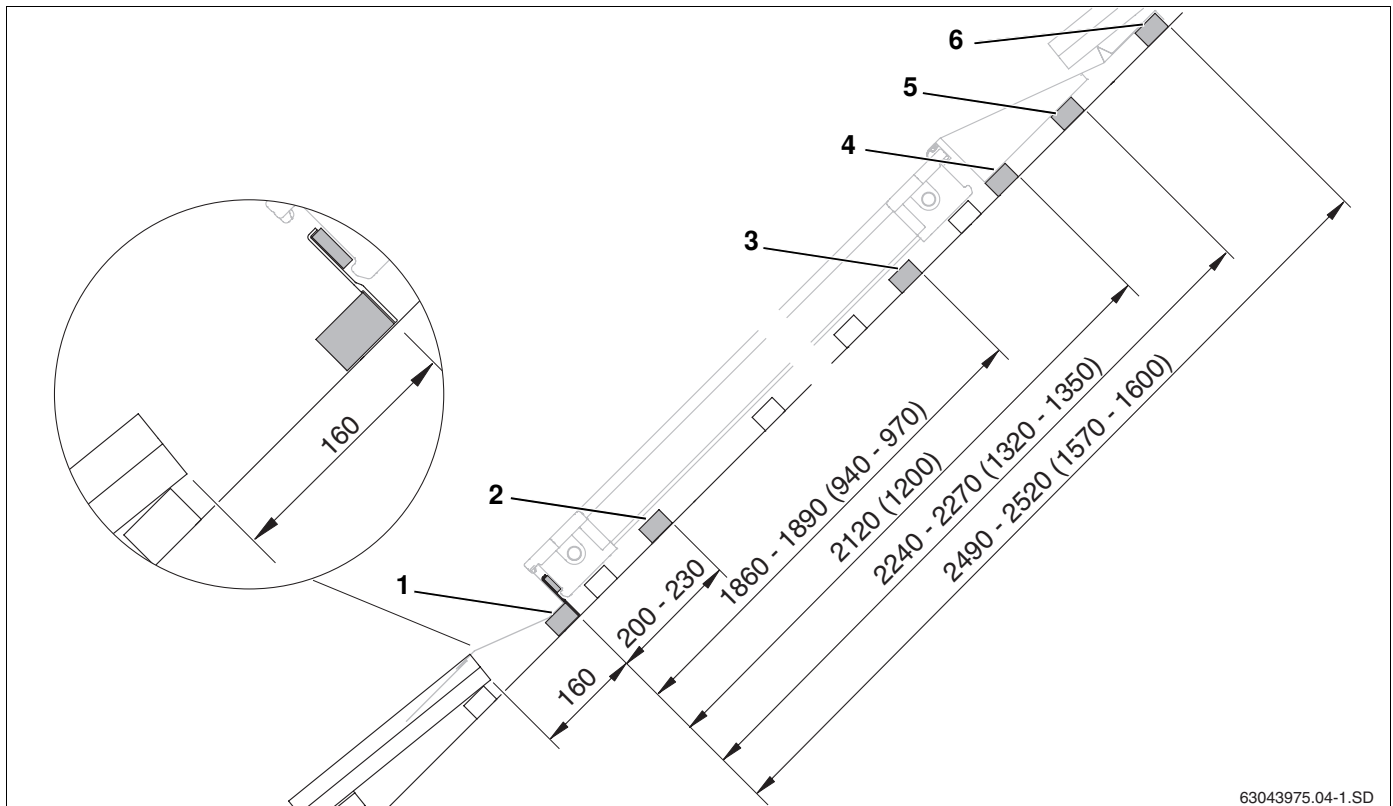

Fig. 14 Distances between additional roof battens when installing one row (measurements in mm, values in brackets = landscape version)
- Attach first roof batten with the anti-slip protection devices (Fig. 14, **Item 1**).
- Attach second roof batten for the lower side clamp (Fig. 14, **Item 2**).
- Attach third roof batten for the upper side clamp (Fig. 14, **Item 3**).
- Attach fourth roof batten for supporting the polystyrene wedge of the upper facing collectors (Fig. 14, **Item 4**).
- Attach fifth roof batten for supporting the upper facing collectors (Fig. 14, **Item 5**).
- Attach sixth roof batten for supporting and fastening the upper facing collectors (Fig. 14, **Item 6**).
When installing more than one row, the roof battens in the first row must be laid as if installing one row (Fig. 14). The 5th and 6th batten for the lower row are not needed.